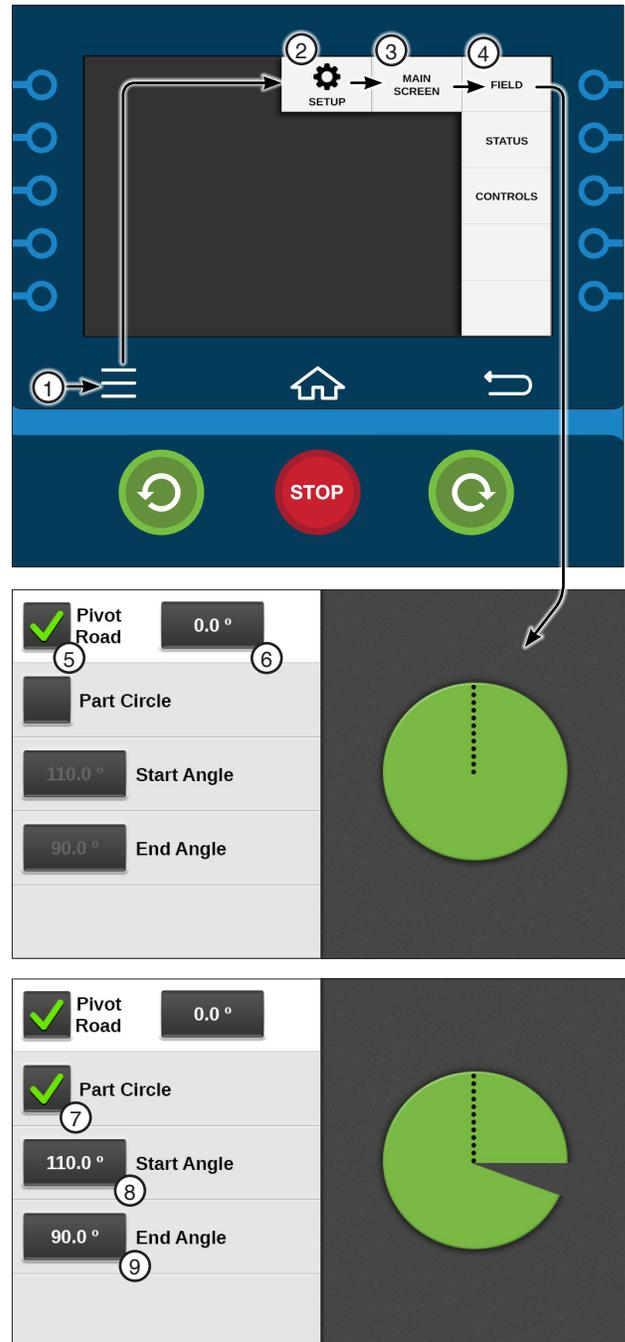

Figure 21-1
The Main Screen menu is used to enable the Pivot Road and set the position and to enable Part Circle and set the start and end angles. It is also used to establish which functions will be monitored and which functions will be controlled on the Main screen. Refer to Figure 21-1.
1. Push **Menu**, **Setup**, **Main Screen** and **Field** to display the Field screen. Refer to Figure 21-1.
1. To enable part circle pivot and set the Start Angle and End Angle, push **Menu**, **Setup**, **Main Screen** and **Field** to display the Field screen. Refer to Figure 21-1.